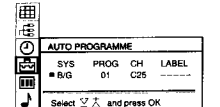

Fig. 4
- 2 Select »Auto Programme« with $\Delta+$ or $\nabla-$ and press OK. The AUTO PROGRAMME menu appears. (See Fig. 4.)